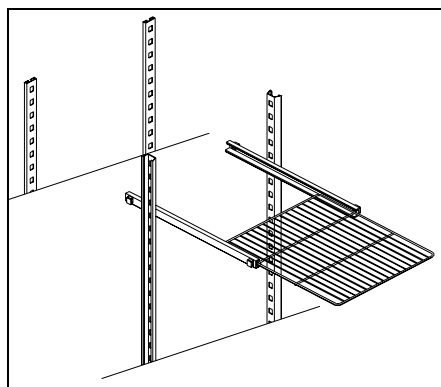

Fig. 2
- Place the shelf supports inside the refrigerator, in the most suitable position for use, inserting each support in to the holes on the base of the refrigerator and inserting the side tab in the appropriate place on the sides or on the table supports (Fig. 2)
- Slide the shelf into the supports as shown in (Fig. 2)